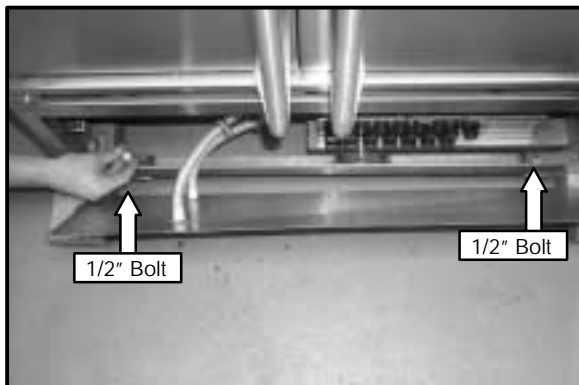

Figure 7
4. Remove the two bolts securing the skids to the front of the oven base section. See Figure 7.
4. Reinstall the two bolts that were removed in Step 2, from the installation base through the oven base section into the installation base. See Figure 7 for installation location.